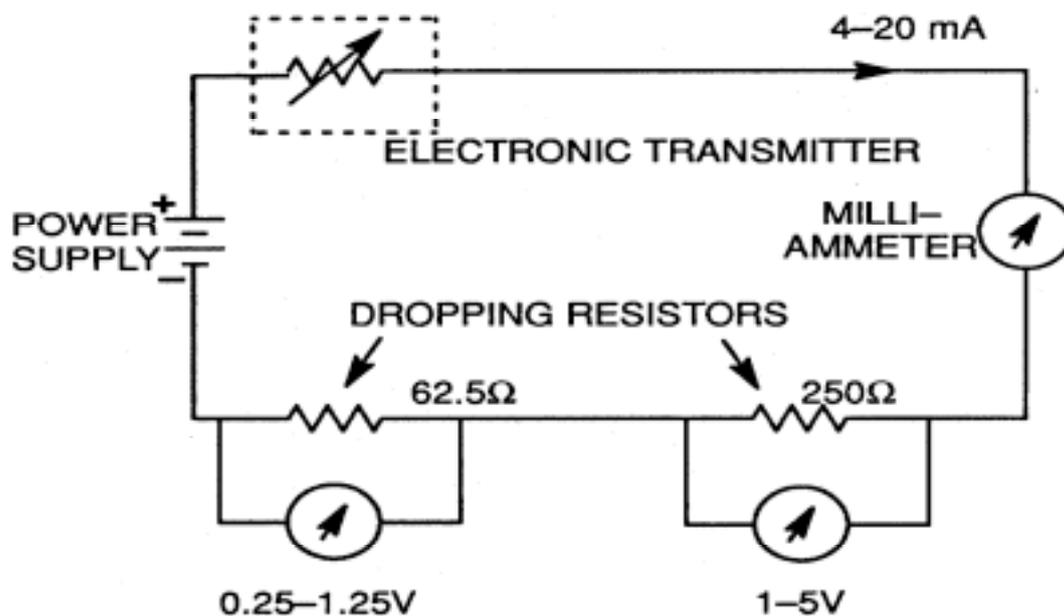

Figure 4. A Representative Current Signal Loop
- Readout devices which can either be current or voltage sensitive can be used to provide a signal indication. To get a direct indication of the current signal, a ***milli-ammeter*** can be connected in series in the loop. Alternatively, a voltage sensitive device such as a ***voltmeter*** can be connected in parallel with a ***dropping resistor*** to sense the potential developed across the resistor by the current flow. (Figure 4).